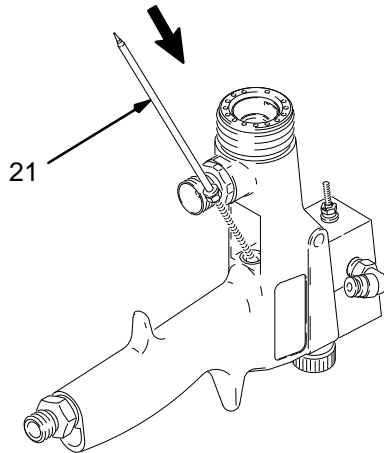

Fig. 33
10. Use the threaded end of the fluid needle (21) to push out the u-cup seal (33). See Fig. 33.